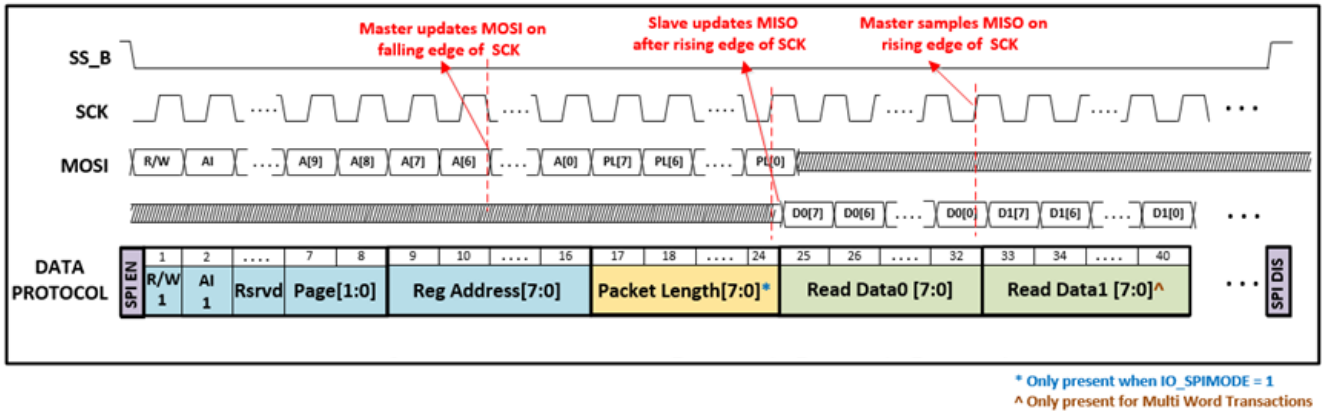

Figure 45. SPI Read Transaction with IO_SPIMODE = 1; IO_SPICPOL = 0; IO_SPICPHA = 0
4. The master drives SS_B high to terminate the transaction as shown in Figure 45.